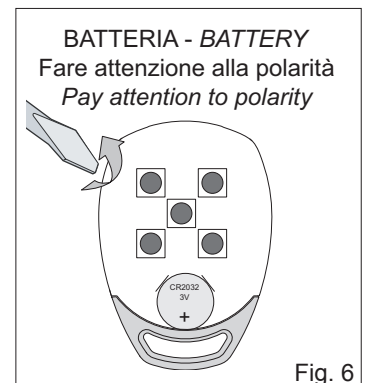

Fig. 6
9. REMPLACEMENT BATTERIE (fig. 6)